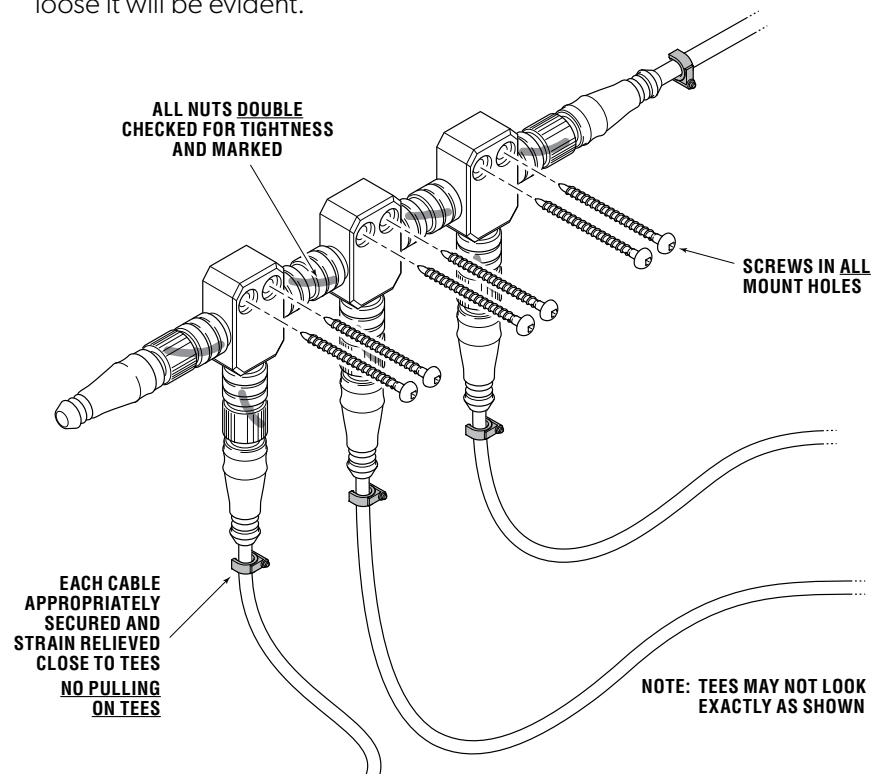

Figure 5-28.
1. Install the network tees as shown in figure 5-28.